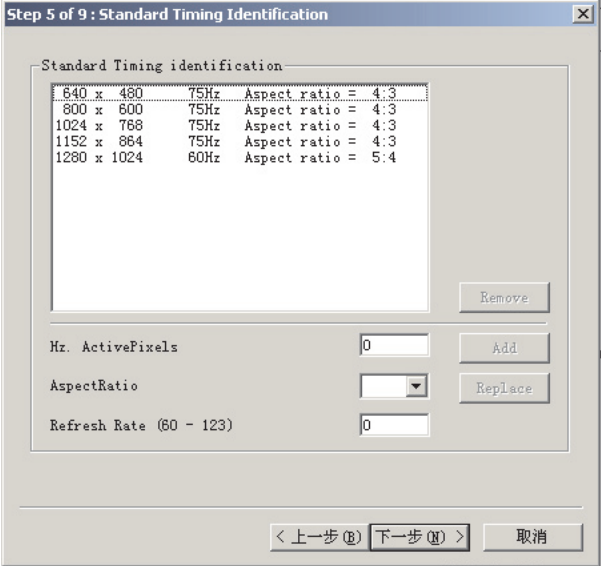

Fig. 31
4. Click Next , bring up Fig. 31.